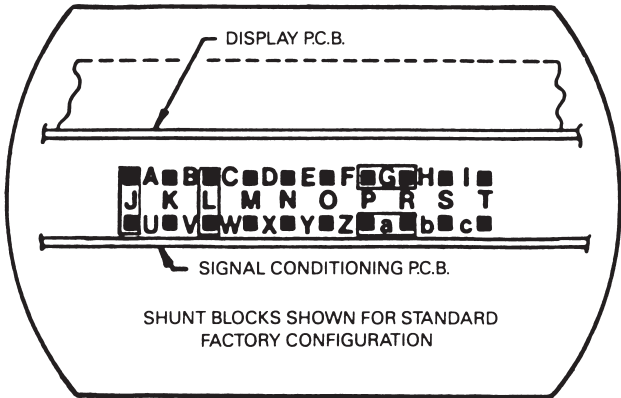

Figure 3-1b. Shunt Block Diagram
1. If the current range chosen in either paragraph 3.3 step 1, or paragraph 3.4 step 1 equals either 4 to 20 mA or 10 to 50 mA, install a shunt block as shown in Table 3-1. Pin forest designations are illustrated in Figure 3-1b.